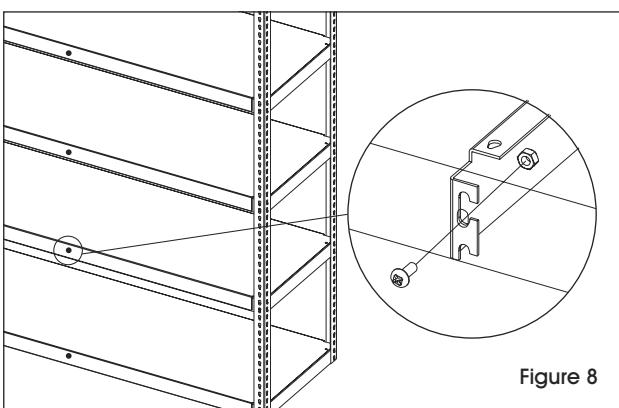

Figure 8
8. Once the shelves are in place, if additional stability is desired, secure the shelves with nuts and bolts (G). Fully tighten. (See Figure 8)